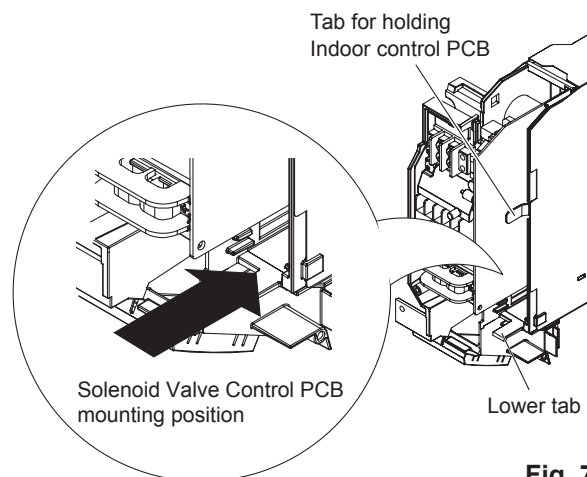

Fig. 7-8
- * When you take out the indoor control PCB, lift the tab holding the indoor control PCB. (Fig.7-8)
- Insert the solenoid valve control PCB into its mounting position. (Fig.7-8)